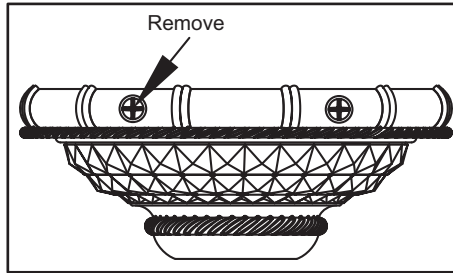

Figure 4
1. Remove the mounting plate from the canopy by loosening the four screws on the top of the canopy (Figure 4).
2. Secure the canopy in place by using the four mounting screws that were removed in step 1, described on page 4 (Figure 4).